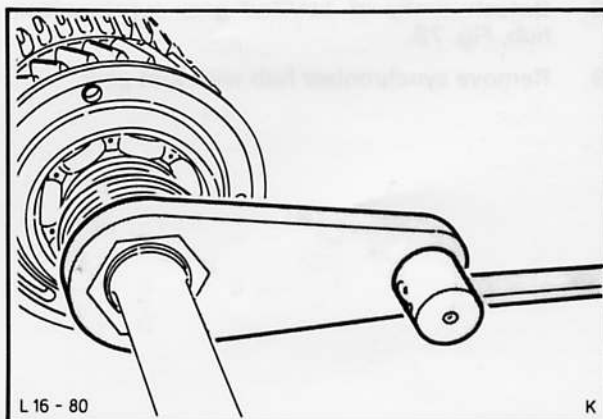

Fig. 76. Remove mainshaft nut with Special Tool No. 16-027
13. Unlock mainshaft nut and remove with Special Tool No. 16-027, Fig. 76.